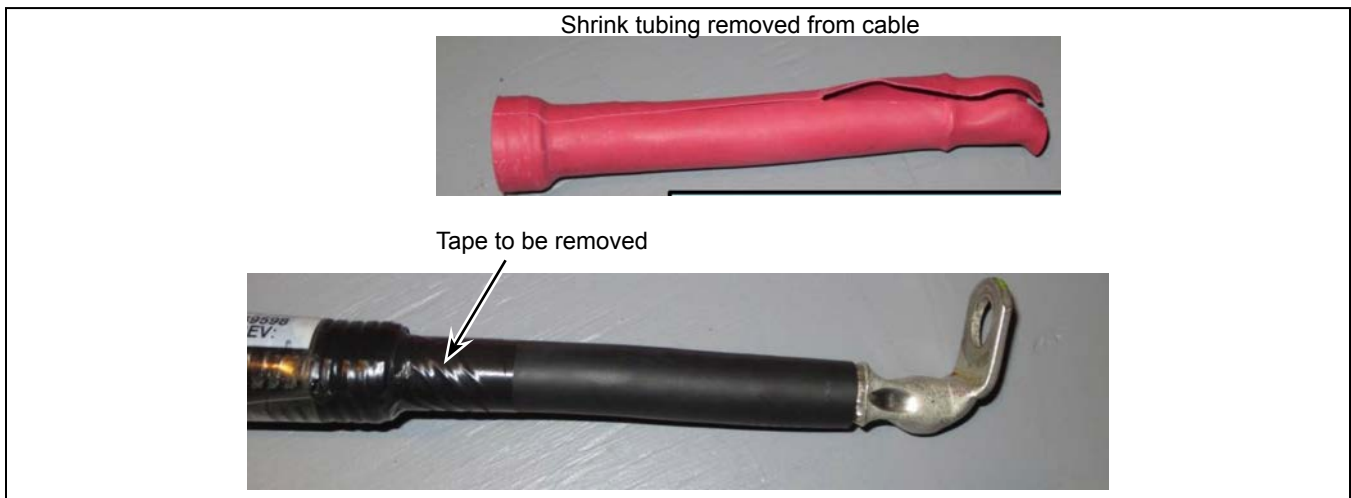

Figure 2 - Red Shrnk Tubing and Tape to be Removed from Cable
- 1.5. Remove the red heat shrink tubing from the power cable. See Figure 2.
- 1.6. Remove the electrical tape retaining the slit convoluted tubing to the cable. See Figure 2.